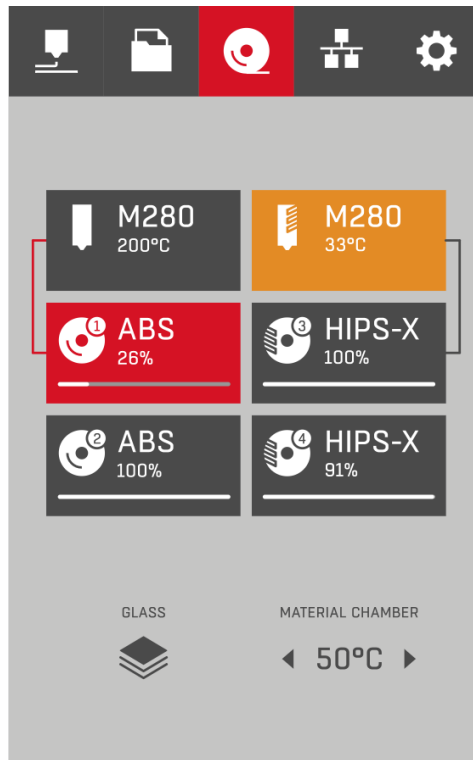

Fig. 66 Screen with sample status highlighting
Various colours may appear on the sidebar of the menu as well as in individual screens indicating a change in the device status (Fig. 66). Additionally, on the notification button on the main screen, dots in three different colours (grey, orange, red) are displayed, which also provide information about the device status change (Fig. 66). The different colours that may appear in the printer menu have the following meanings.
- Dark grey – indicates that the option is active and can be selected. If a grey dot is displayed on the notification button (Fig. 66), it means that there is new information there, which is neither a warning nor an error. The grey dot on the notification screen may indicate that material has been loaded correctly or the start or end of the printing process.